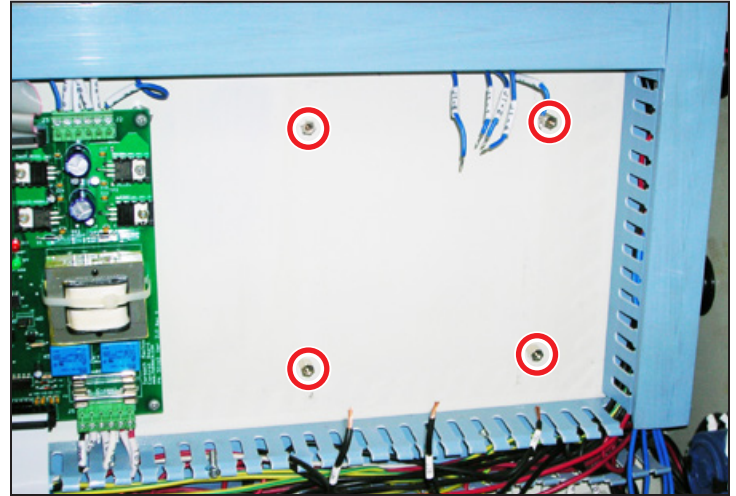

Figure 4
1. Put four M4 × 10 mm spacers (included) into the four mounting holes that were previously used for the original drive (see **Figure 4**).